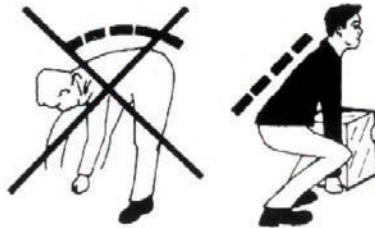

Fig. 4.3
- Lift loads without flexing your back, keeping the torso straight (fig. 4.3 )